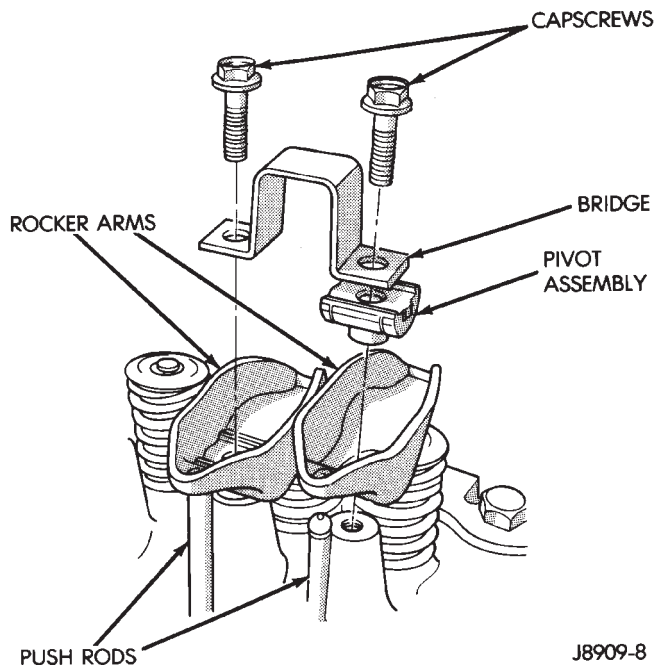

Fig. 2 Rocker Arm Assembly
- (1) Remove the engine cylinder head cover.
- (2) Remove the capscrews at each bridge and pivot assembly (Fig. 2). Alternately loosen the capscrews one turn at a time to avoid damaging the bridges.
- (3) Check for rocker arm bridges which are causing misalignment of the rocker arm to valve tip area.
- (4) Remove the bridges, pivots and corresponding pairs of rocker arms (Fig. 2). Place them on a bench in the same order as removed.
- (5) Remove the push rods and place them on a bench in the same order as removed.
(2) Drain the coolant and disconnect the hoses at the engine thermostat housing. DO NOT waste reusable coolant. If the solution is clean and is being drained only to service the engine or cooling system, drain the coolant into a clean container for reuse.
(3) Remove the air cleaner assembly.
(4) Remove the engine cylinder head cover.
(5) Remove the capscrews, bridge and pivot assemblies and rocker arms (Fig. 2).
(6) Remove the push rods (Fig. 2). **Retain the push rods, bridges, pivots and rocker arms in the same order as removed.**
(7) Loosen the serpentine drive belt at the power steering pump, if equipped or at the idler pulley (refer to Group 7, Cooling System for the proper procedure).
(8) If equipped with air conditioning, perform the following: